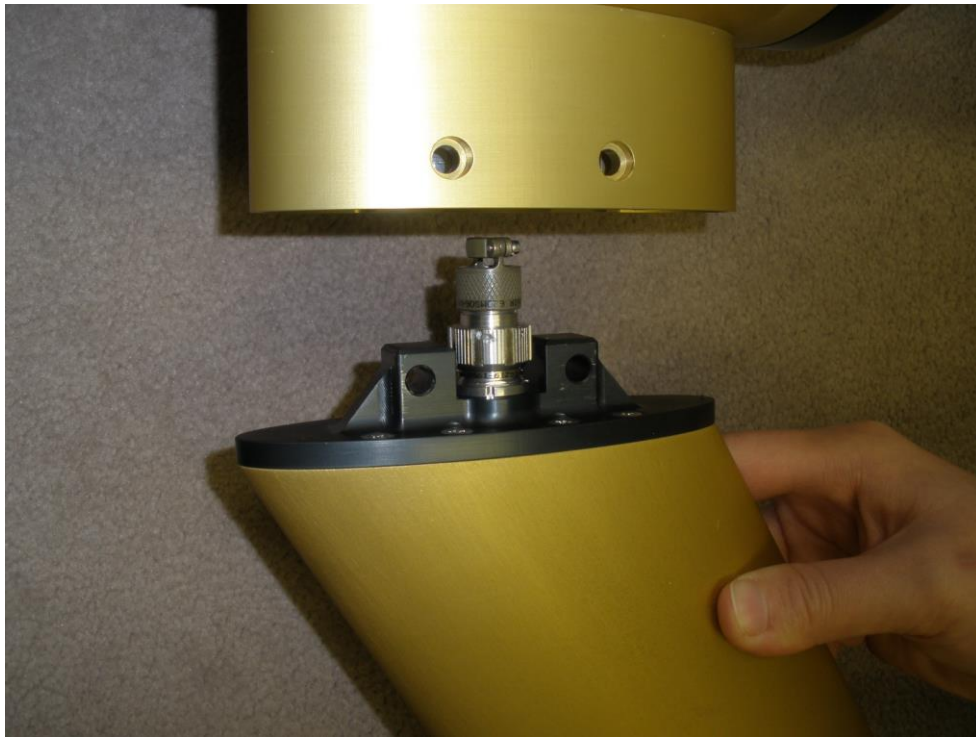

Figure 5.8: FCDP Connectors' engaged
- 1.) Connect the electrical connector (**Figure 5.8**)